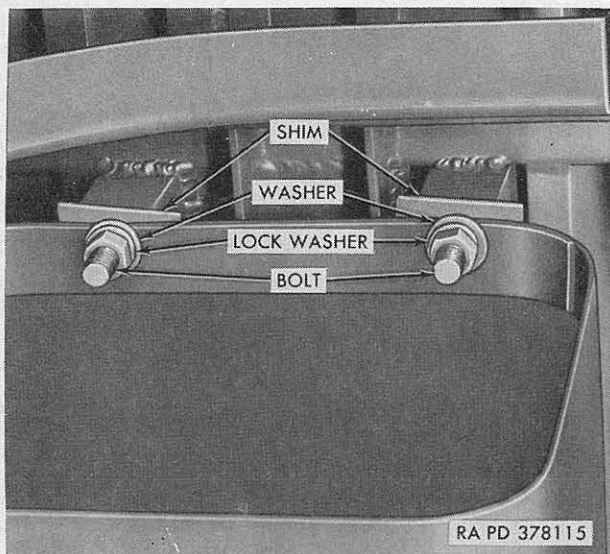

Figure 44. Disconnect points for fuel tank.
- (3) Remove four nuts (fig. 44) plain washers, shims and flathead bolts securing fuel tank beneath platform and remove tank. Figure 44 shows the two bolts at front end of tank, the remaining two are at rear end. Unscrew nut
Install four  $\frac{3}{8}$ -16NC flathead screws (fig. 44) from top of platform. Install shim on each screw and against underside of platform. Position fuel tank on the four screws and secure with four  $\frac{3}{8}$ -inch plain washers, and lock-nuts.